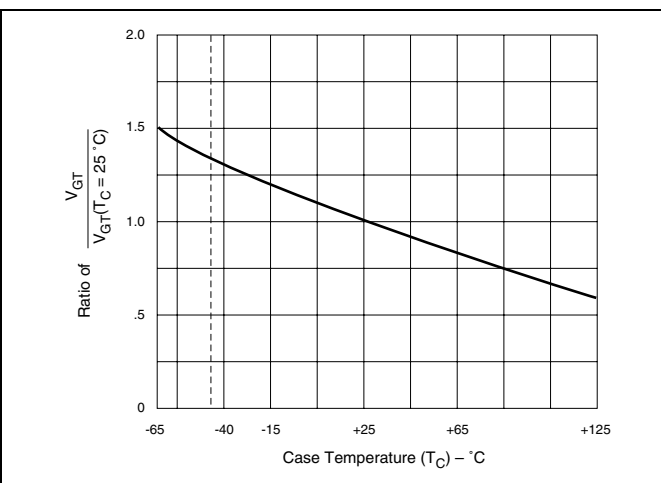

Figure E2.12 Normalized DC Gate Trigger Voltage for All Quadrants versus Case Temperature
- (6) See Figure E2.12 for V_{GT} versus T_C .